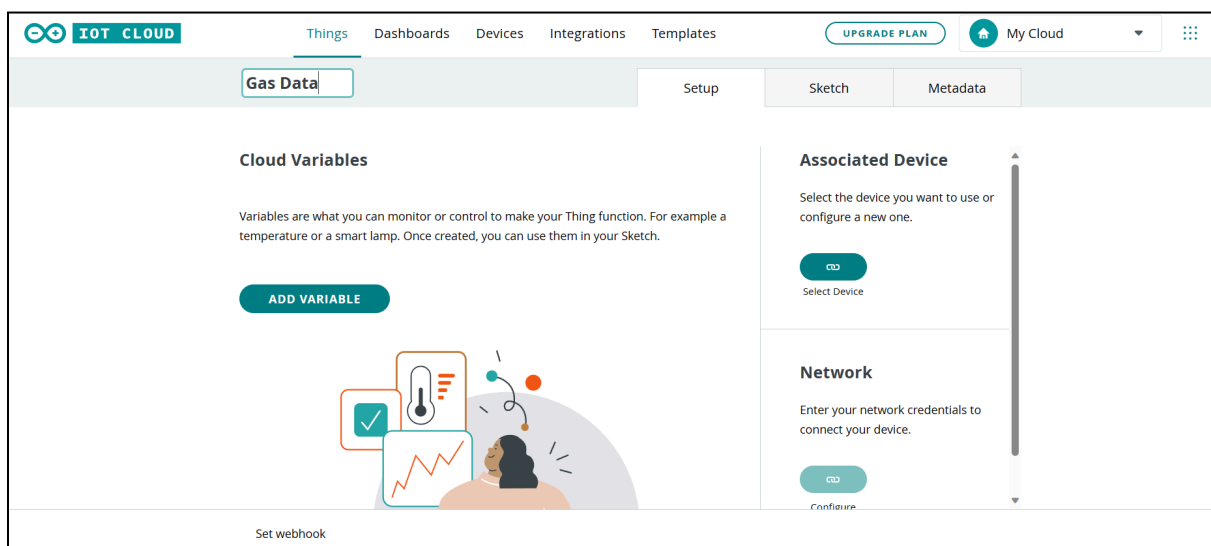

Fig. 13: Giving your project a name in the Things tab
2. Then, click on the "Create Thing" button. We can then rename our Thing to something appropriate to what we are doing, in this case, we simply chose **Gas Data**. In this **Gas Data** things (Fig. 13), you will find **setup** and **sketch** options. You can think of **Gas Data** as a project where you can declare variables, add codes and upload it just like in regular arduino!